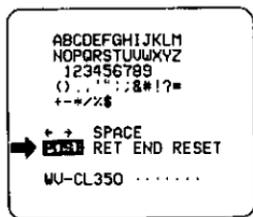

Fig. 27
- Move the character cursor to the "POS1" position and press the Set Switch(11) to display the ID position menu as shown Fig. 27 and the characters of the camera ID starts blinking to identify the positioning menu for you.